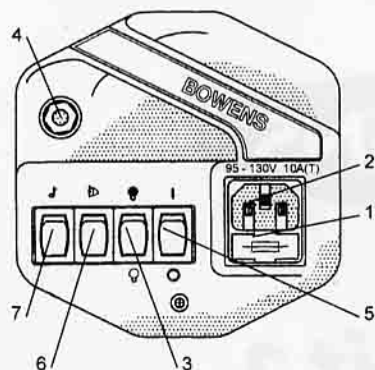
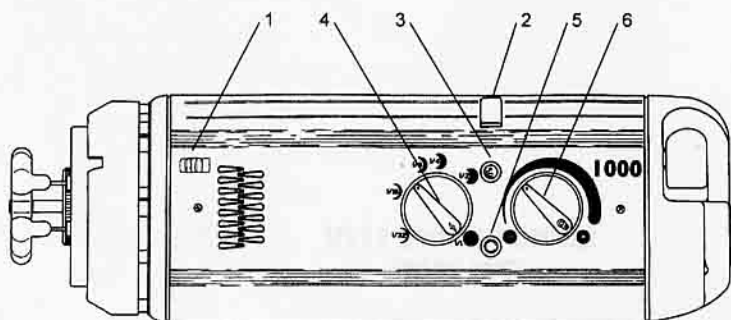

Fig.1
Fig.2
- The charging and modelling circuitry of the Esprit 2 1000 is protected by a 10A (T) 20mm fuse mounted on the rear panel (Fig.1. 1). Disconnect the supply before changing the fuse. **Never** replace with a fuse of a different rating. A spare 10A (T) fuse is fitted in the fuse holder.
- The green illuminated On/Off switch (Fig.1: 5) on the rear panel controls the power to both the flash and the modelling lamp. Setting the switch to 1 turns the unit ON and 0 turns the unit OFF.
- Rotating the control (Fig.2. 4) from full to half, half to quarter, quarter to eighth, eighth to sixteenth, sixteenth to thirty-second gives a reduction in output equivalent to 1 f stop for each step.
- When first switched 'ON' the green illuminated ON/OFF switch (Fig.1. 5) will light. When the unit has charged to the level set by the flash power selector (Fig.2. 4) the green ready LED (Fig.2. 3) will light. Your Esprit 2 1000 is now ready to fire.
- Open Flash: (Fig.2. 5)
- Sync Socket: (Fig.1. 4)
- Photocell: (Fig.2. 2)
- With the modelling lamp control switch (Fig.1. 3) in the central position the modelling light is OFF. With the modelling light set to 'Intermittent' the modelling light will go out when the unit is flashed and come back on when the unit comes to ready. This enables the photographer to see from the camera position that all Esprit 2 units in use have fired. With the switch set to 'Continuous' the modelling lamp stays on all the time. The modelling light may be varied in ratio with the flash power output by aligning the modelling Knob (Fig.2.6) with that of the flash control (Fig.2.4).
11. Fuse (Fig.1. 1)
- The modelling and flash circuitry is protected by a single 10A (T) 20mm fuse mounted on the rear panel. Never replace the fuse with one of a different rating. As the fuse may blow when the modelling lamp fails always check the fuse when replacing the bulb. A spare fuse is supplied in the fuse holder. Always switch OFF the Esprit 2 unit before changing the bulb or fuse.
- To remove reflector, push Latch Knob (Fig.2. 1) towards the rear of the unit, turn the reflector fully anti-clockwise and withdraw.